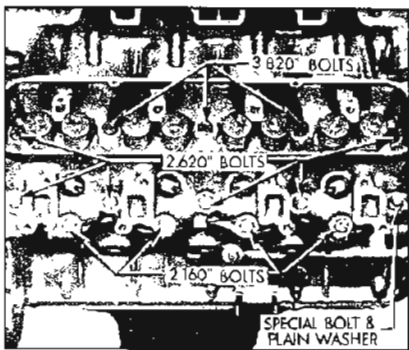
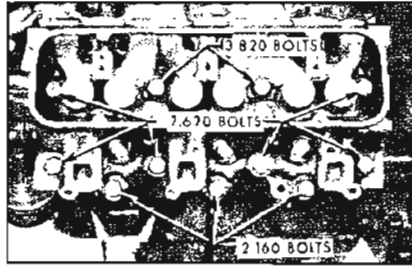

Figure 2-25—V-8 Cylinder Head Bolt Installation
Figure 2-26—V-6 Cylinder Head Bolt Installation
5. Clean and lubricate the head bolts with "Perfect Seal" sealing compound. Install bolts as shown in Figure 2-25 on V-8's or Figure 2-26 on V-6's.
around in the sequence shown in Figure 2-25 on V-8's and Figure 2-26 on V-6's, then torque the bolts in the same sequence to 65-70 ft. lbs.